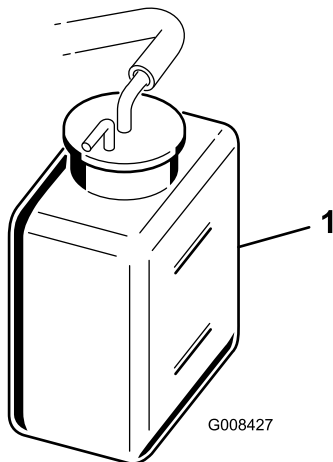

Figure 46
2. Check the coolant level (Figure 46).